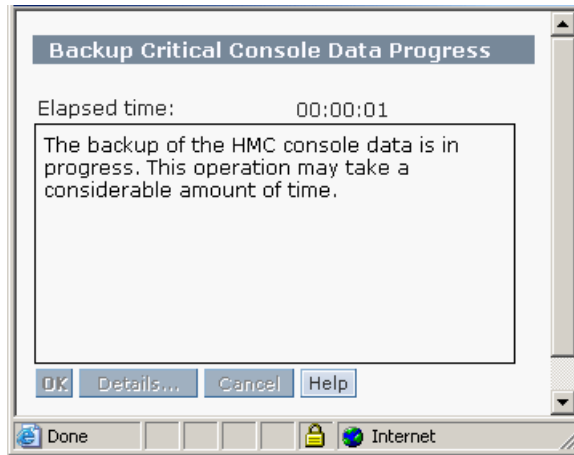

Figure A-10 Backup Critical Console Data Progress
11. The Backup Critical Console Data Progress window displays as shown in Figure A-10. The backup can take several minutes to complete.